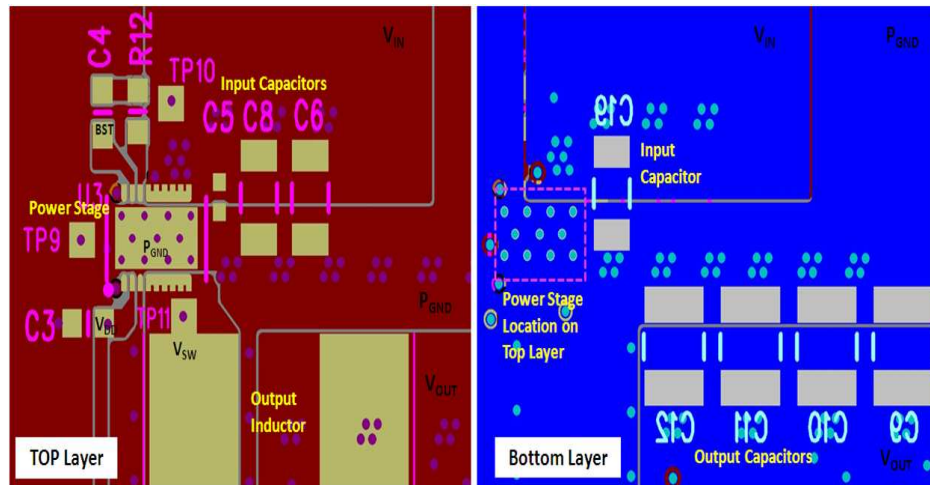

Figure 16. Recommended PCB Layout (Top Down View)
- The placement of the input capacitors relative to V_{IN} and P_{GND} pins of CSD97374Q4M device should have the highest priority during the component placement routine. It is critical to minimize these node lengths. As such, ceramic input capacitors need to be placed as close as possible to the V_{IN} and P_{GND} pins (see Figure 16). The example in Figure 16 uses 1 × 1-nF 0402 25-V and 3 × 10-μF 1206 25-V ceramic capacitors (TDK Part # C3216X5R1C106KT or equivalent). Notice there are ceramic capacitors on both sides of the board with an appropriate amount of vias interconnecting both layers. In terms of priority of placement next to the power stage C5, C8 and C6, C19 should follow in order.
- Use the smallest drill size allowed in your design. The example in Figure 16 uses vias with a 10-mil drill hole and a 16-mil capture pad.